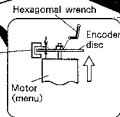
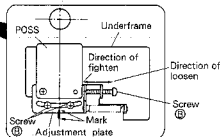
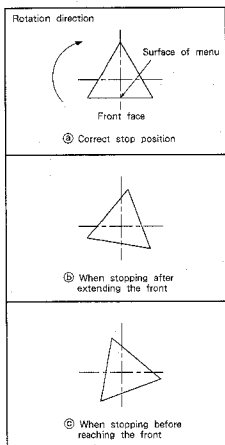

Fig. 7-2
Fig. 7-3
Fig. 7-4
- Adjustment of the stop position of menu rotation (Fig. 7-2)
- Loosen the screw ③ which holds the encoder disc using a hexagonal wrench.
- Loosen screw ④ which holds the adjustment plate.
- (1) Set the gap between the encoder disc and photo interrupter of the motor (menu) to $1\frac{1}{8}$ mm. (Fig. 7-2)
- (2) Fix the screw of the encoder disc by tightening with a hex wrench.
- (3) Turn screw ⑤ so that the carved mark on the adjustment plate align with the underframe. Then temporarily tighten screw ⑤.
- (4) Push the ROTATE MENU key on the front panel of the main unit so that menu rotates. Then, perform the following adjustments depending on the condition. (Fig. 7-3)
- When the menu stops after extending past the front Loosen screw ④, then tighten screw ⑤ turning it clockwise.
- When menu stops before reaching the front Loosen screw ④ and turn screw ⑤ counterclockwise to loosen it.
- (5) Turn the menu again and firmly tighten screw ④ when the menu stops directing its surfaces to the front. (Fig. 7-4 ③)
- (6) Finally, turn the menu and check that the menu stops directing all of its three surfaces to the front at every 120° rotation.